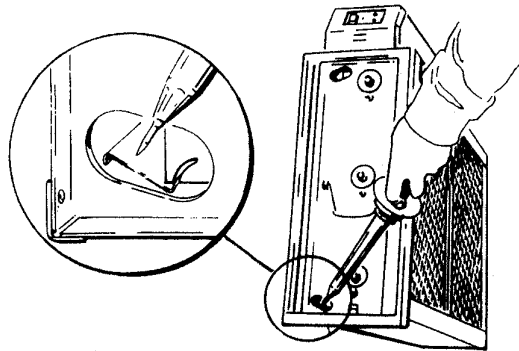

Figure 18
5. Remove the cell access door. Attach the high voltage ground lead from the high voltage probe to the cabinet. While depressing the safety switch lever, touch the ionizer wire support bar with the end of the high voltage probe (Fig 18). The meter should read 6.2 kVDC \pm .2 kVDC. (6.8 kVDC \pm .2 kVDC for 1400 SQ)